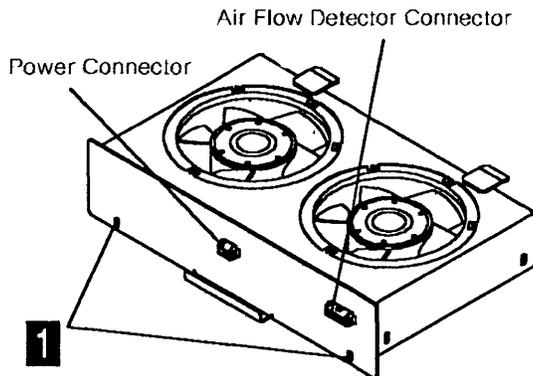

Figure 4-99. FAN 2 Air Flow Detector and Power Connectors
11. At Fan 2, disconnect the air flow detector cable and the power cable. Refer to Figure 4-99.
15. Install Fan 2 assembly in the frame and fasten it with the 2 screws **1**. Refer to Figure 4-99 on page 4-72.